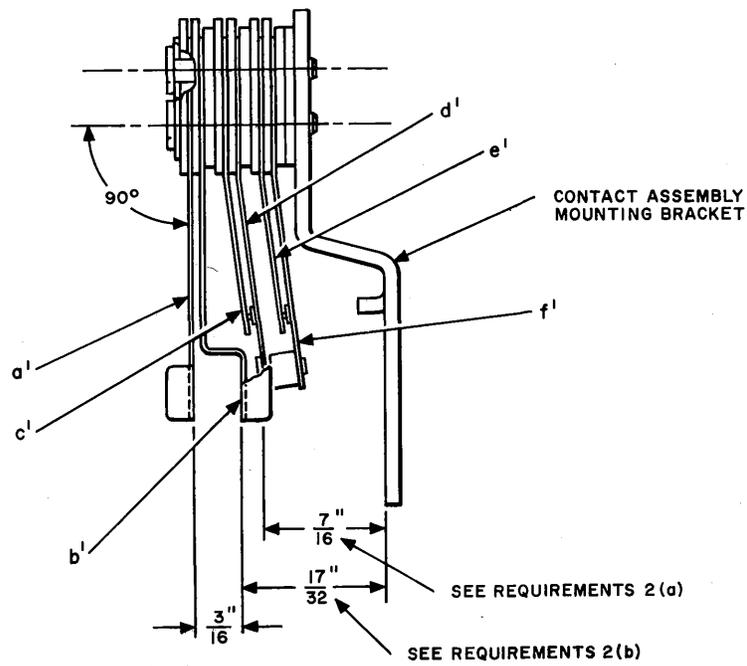
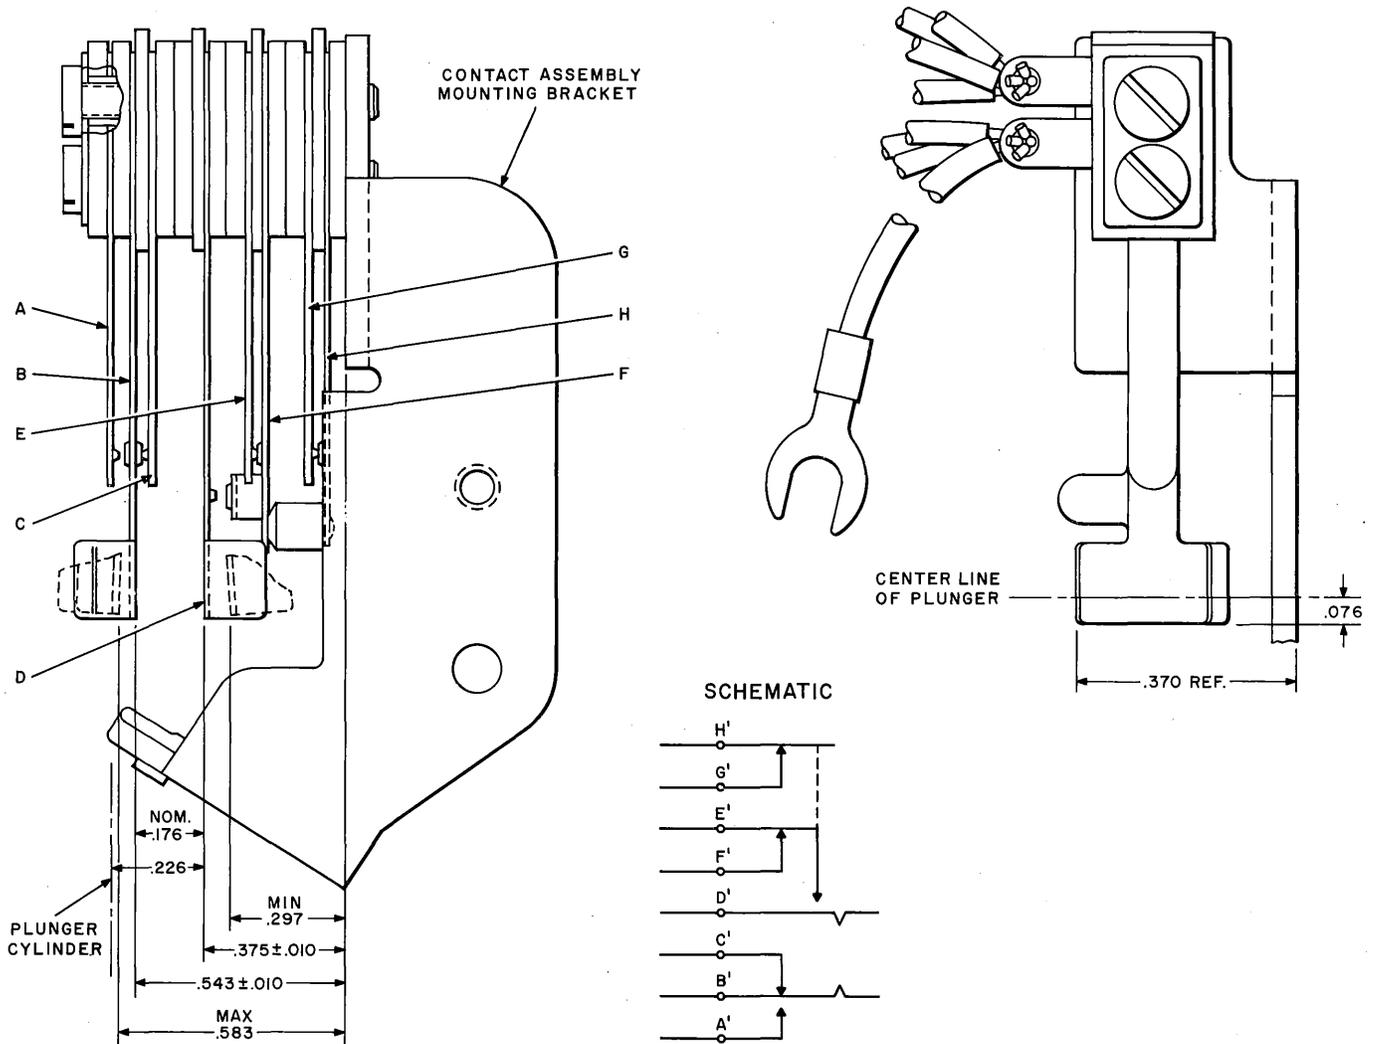
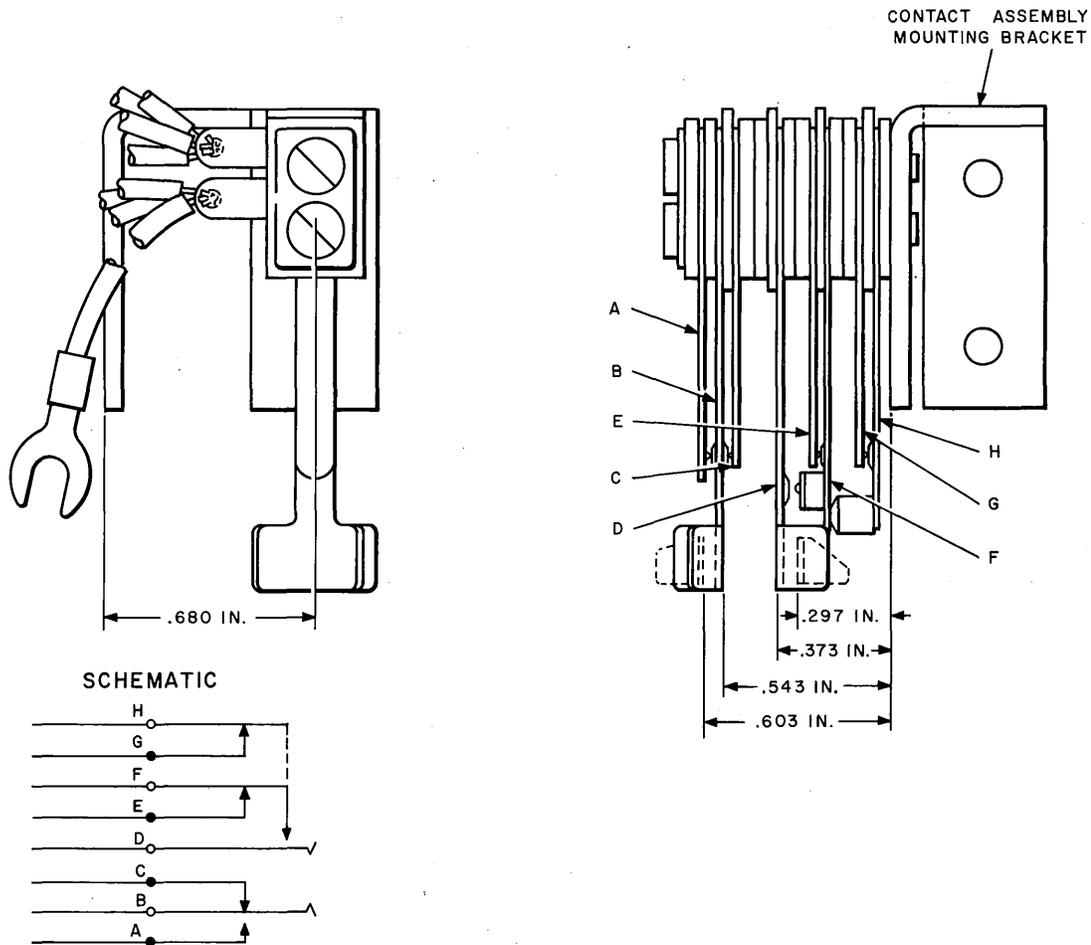

Fig. 5—Data Set 401E1, Data Key Contact Adjustments
Fig. 6—Data Sets 401E2, 401E3, 401E4, and 401E5 Data Key Contact Adjustments
Fig. 7—Data Sets 401E2, 401E3, 401E4, and 401E5 Exclusion Key Contact Adjustments
**4.01** If the data set contact springs on Data Set 401E1 are accidentally bent, adjust in accordance with the requirements outlined in Fig. 5. If the data key contact springs on Data Sets 401E2, 401E3, 401E4, or 401E5 are accidentally bent, adjust in accordance with the requirements outlined in Fig. 6. Refer to Fig. 7 for adjustment of the contacts of exclusion keys for all data sets.